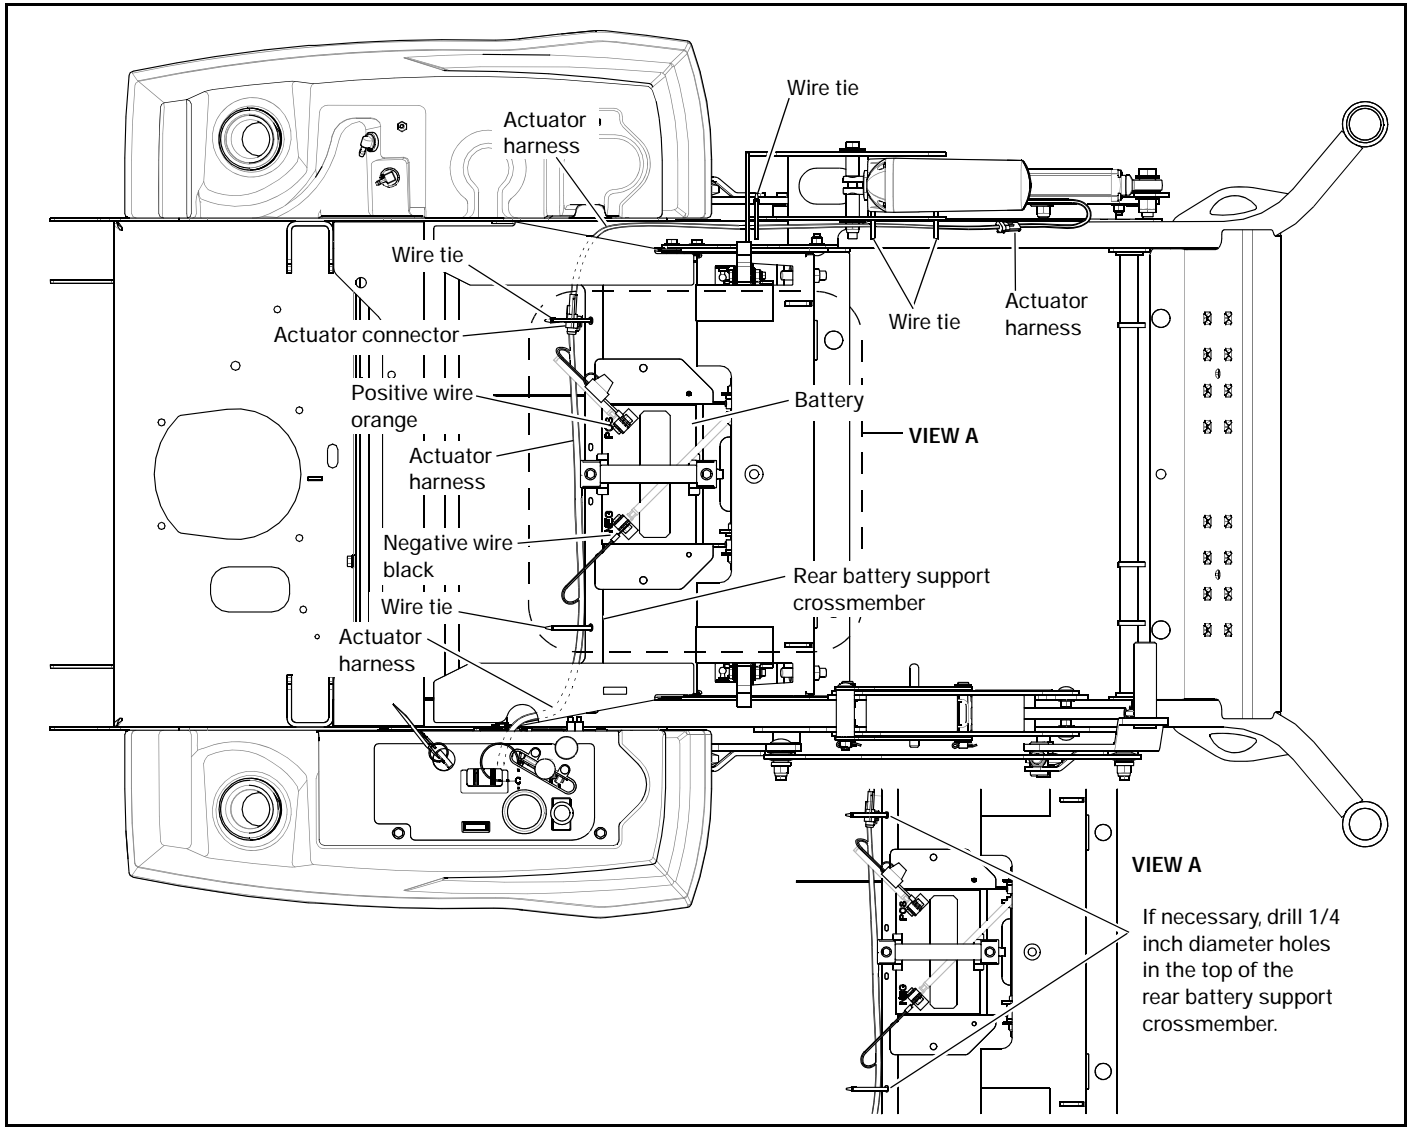
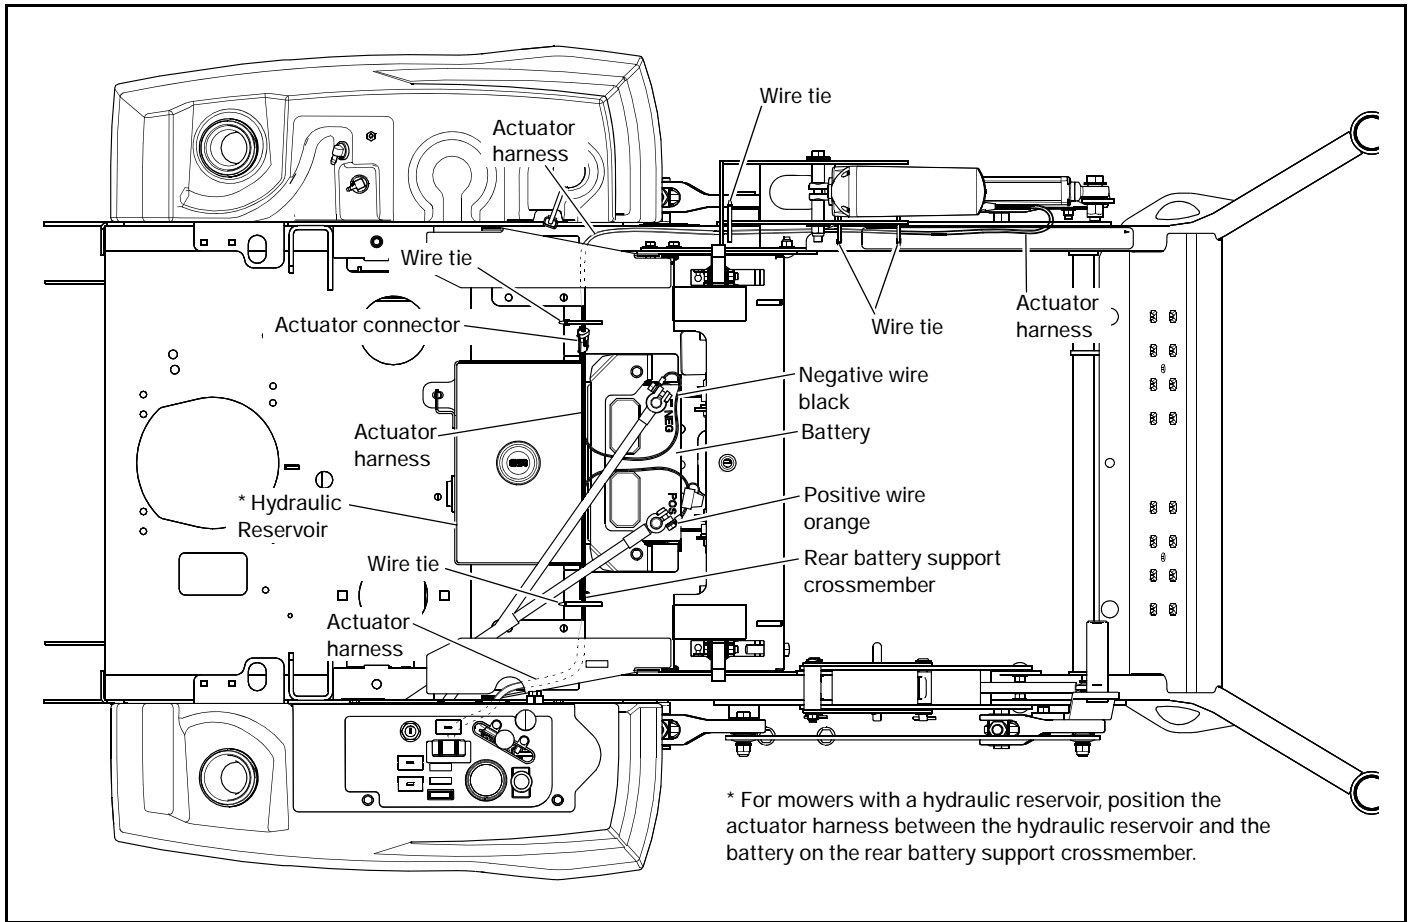

FIG. 9
FIG. 10
19. Route the actuator harness along the mower frame as shown. Fig. 9, Fig. 10
20. Plug the actuator harness into the actuator connector. Fig. 9, Fig. 10
21. Attach the positive (orange) wire connector to the positive battery post. Fig. 9, Fig. 10
22. Attach the negative (black) wire connector to the negative battery post. Fig. 9, Fig. 10
23. Secure the actuator harness to the mower frame using the wire ties as shown. Fig. 9, Fig. 10
**NOTE:** If there are no holes in the rear battery support crossmember of the mower, drill a 1/4" diameter hole in the approximate locations shown. Fig. 9